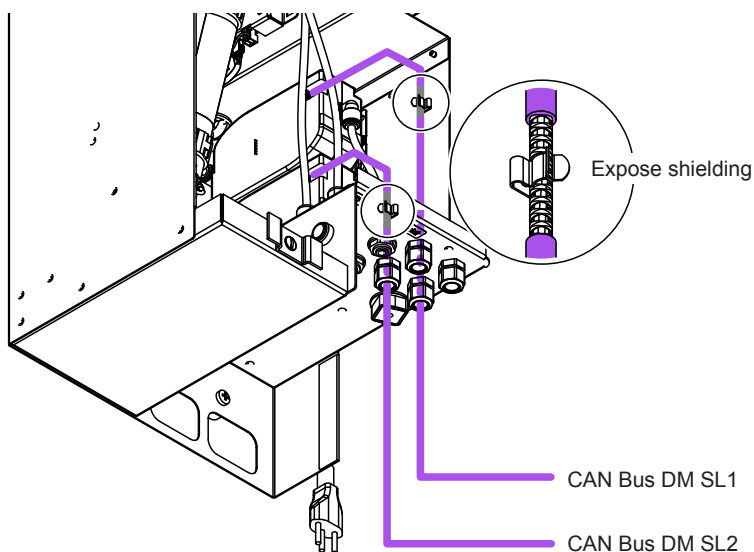

Fig. 46: Connecting CAN bus cables for spray loop 1 and spray loop 2 to the drain modules
- Prepare the CAN bus cable(s) to be connected to the drain module(s) according to Fig. 46.
5. Connect the CAN bus cables from spray loop 1 and, if present from spray loop 2 to the corresponding drain module (DM) in the central unit according to Fig. 46.